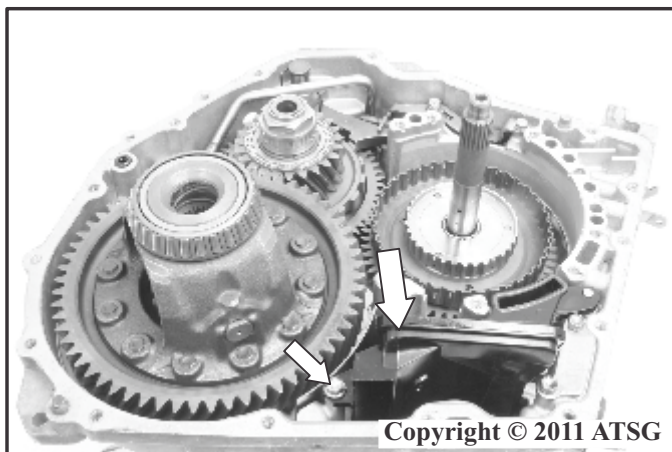

Figure 34
37. Remove the ATF fluid filter retaining bolt as shown in Figure 34.
38. Remove and discard the ATF fluid filter by lifting straight up as shown in Figure 34.